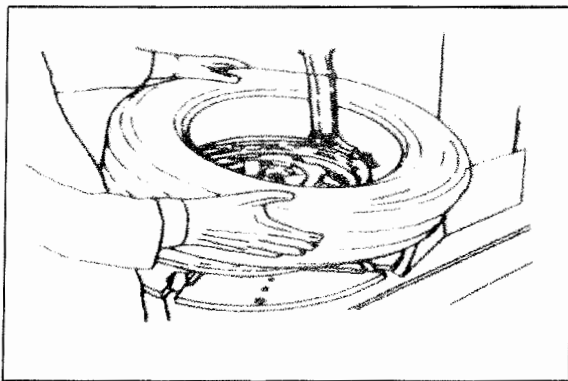

FIG 21
4.2.2 Spread the lubrication liquid or soap liquid around the lip. Tilt the tire against the rim and keep the front end upwards. Press down the hexagonal shaft to move the demount arm to contact with the rim and lock. The left lip above the tail of the demount tool and the right lip will be positioned under the front end of the demount tool (FIG 21). Clockwise rotate the turntable to guide the bottom lip into the tire detaching slot.